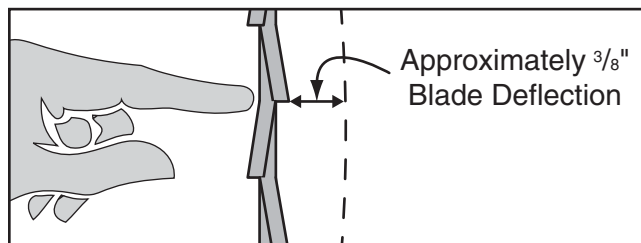

Figure 16. Proper amount of blade deflection.
4. Check the deflection of the blade by pushing it with moderate pressure midway between the upper blade guides and the table (see **Figure 16**). The proper amount of deflection is approximately $\frac{3}{8}$ ".